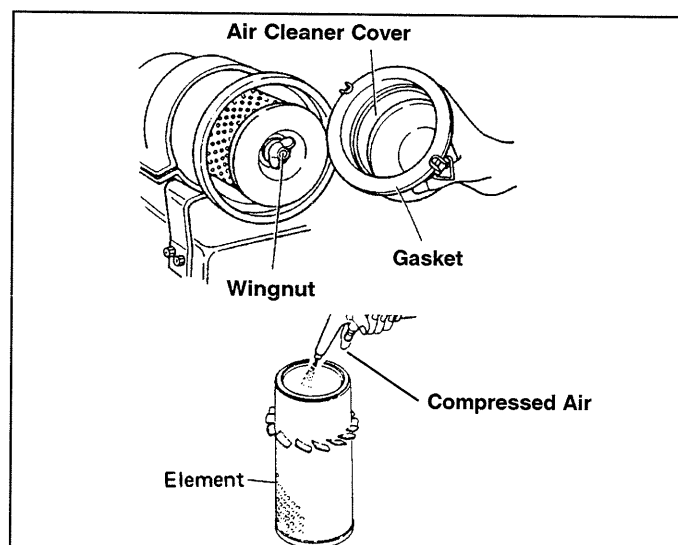

Figure 4-3. Servicing Engine Air Filter
3. Remove the wingnut (Figure 4-3) and remove air cleaner element.
4. Clean air cleaner element with compressed air 30 psi (200 kPa) (Figure 4-3.)